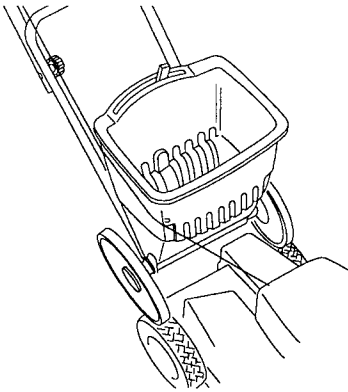

Figure 32
1. Place the spreader on your mower (Fig. 32). The wheels of the spreader must rest on the wheels of the mower.